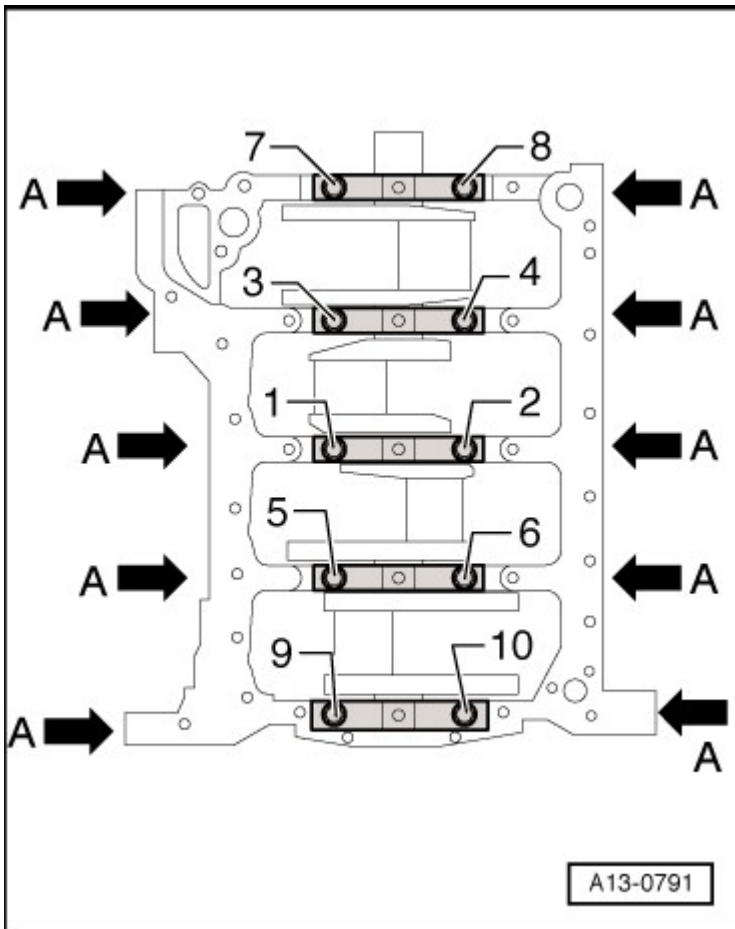

Fig. 9: Identifying Crankshaft Bearing Cap, Installation
- Tightening sequence, refer to **Fig. 9**